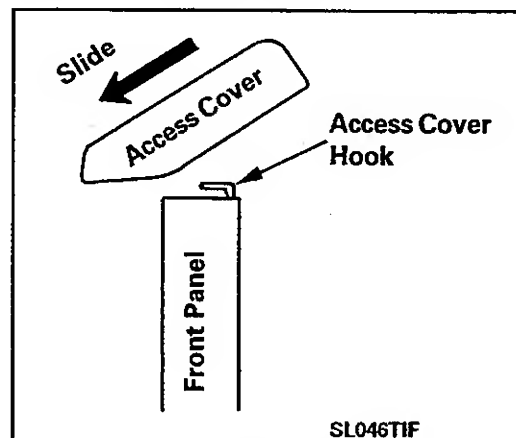

Figure 4-4
5. Carefully slide the access cover down and away from the machine to disengage the cover from retaining clips on the front shroud located above the front panel goalposts (*Figure 4-4*).